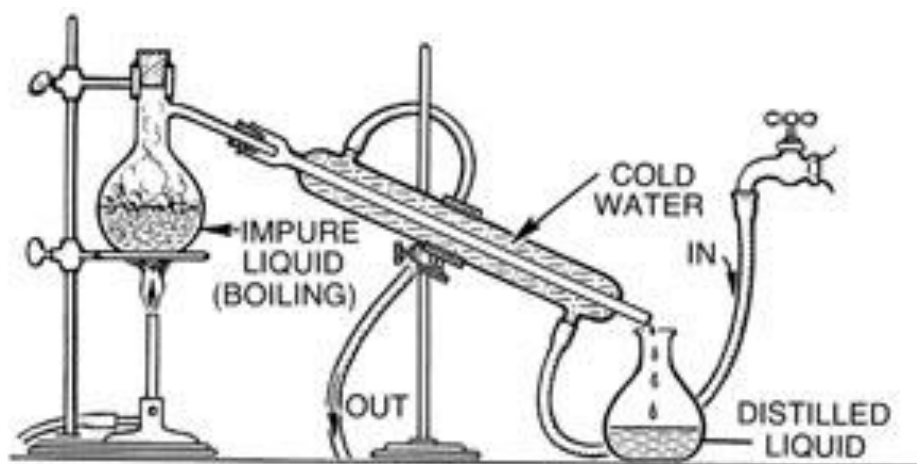

Figure 12: Simple distillation
2. Set up the distillation apparatus as shown in Figure 12.